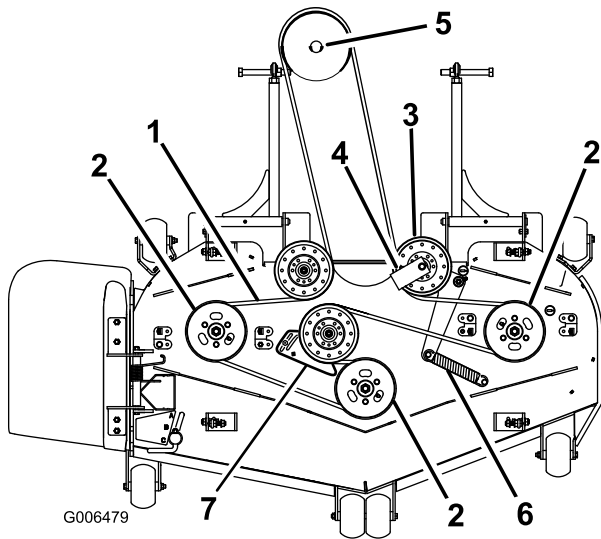
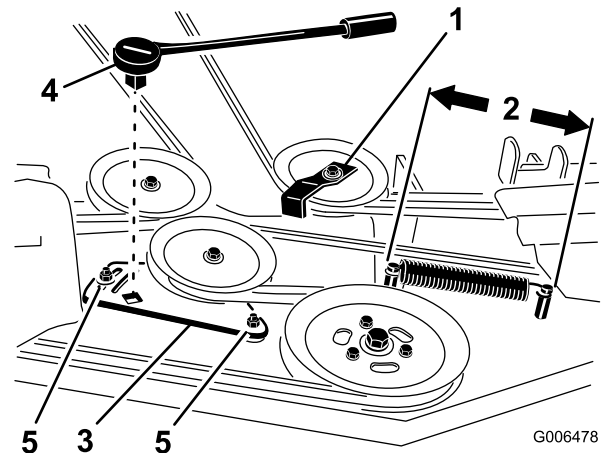

Figure 55
Figure 57
4. Loosen the idler plate bolts holding the idler plate (Figure 57).
6. Remove the belt guide on the spring loaded idler pulley shown in Figure 55 and Figure 57.
8. Install the new belt around the mower pulleys and the gearbox pulley under the engine (Figure 55).
- Measure the spring length (Figure 57). If the spring length is between 10 and 10-1/4 inches (25.4 and 26.0 cm), from post to post, no adjustment is needed.
- Loosen the bolts holding the idler plate (Figure 57).
- Insert a ratchet or breaker bar into the square hole in the idler plate to adjust the tension (Figure 57).
- Rotate the ratchet or breaker bar to move the idler plate until the idler spring is between 10 and 10-1/4 inches (25.4 and 26.0 cm) from post to post as shown in Figure 57.
- While holding the belt tension and spring length, tighten the idler plate bolts that secure the idler plate (Figure 57).
- Install the belt guide on the spring loaded idler at a 45 degree angle as shown in Figure 55 and Figure 57. Torque the bolt to 27 to 33 ft-lb (37 to 45 N-m).
- Install the idler spring to the two posts (Figure 55 and Figure 57).